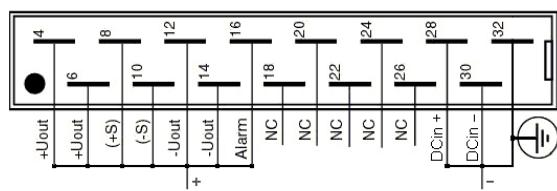
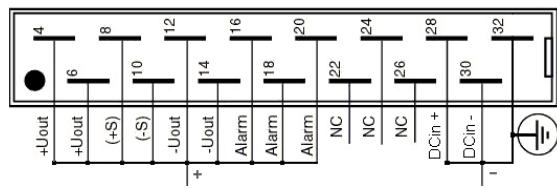

Figure 11. Output to case isolation voltage test.
Figure 12. Output to case with relay alarm isolation voltage test.
2. Check *Figure 11* or *Figure 12* to include the alarm relay option. The relay outputs are insulated from output/input/case.
6. Raise the voltage of the isolation tester from 0 to 2500 V.a.c. The voltage should not be applied for more than one (1) minute or the Y-capacitors might be damaged.